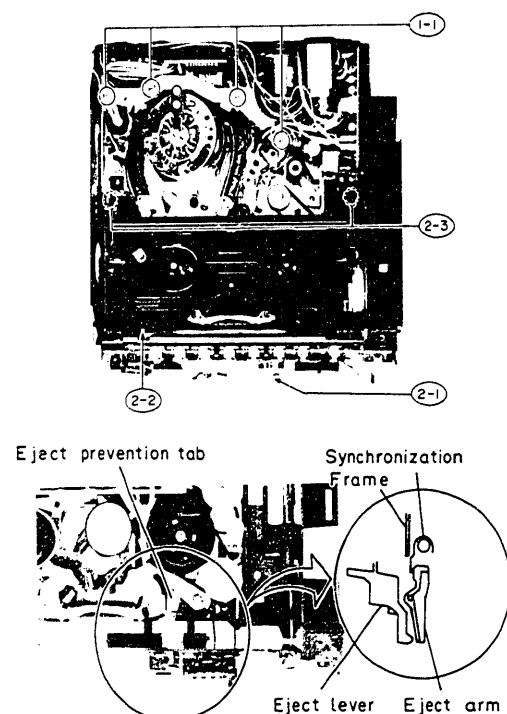

Fig. 10
1. Reinforcement plate (Fig. 10)
2. Cassette holder (Fig. 10)